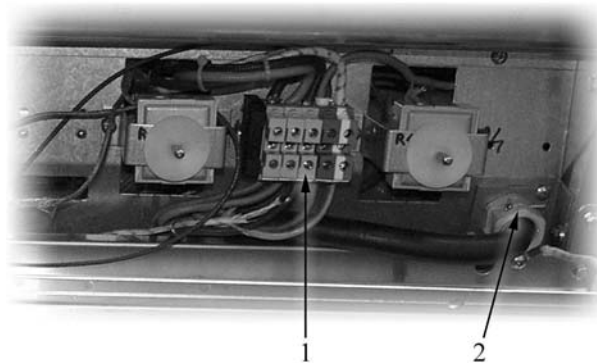

Fig. 6
The power cable must be secured with the cable clamp fitted to the appliance (item 2 in Fig. 6) to prevent it from being damaged.